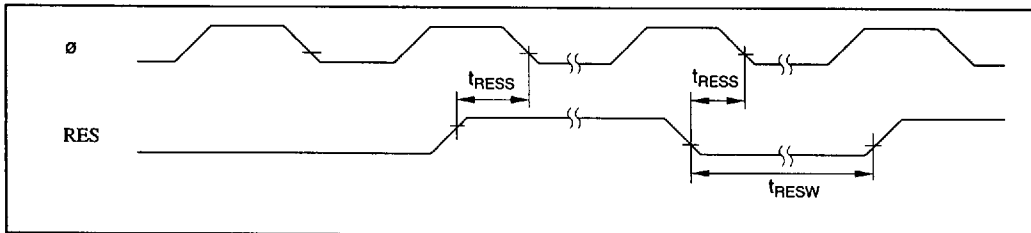

Figure 22-6 Reset Input Timing
22.3.2 Control Signal Timing	Figures 22-6 to 22-9